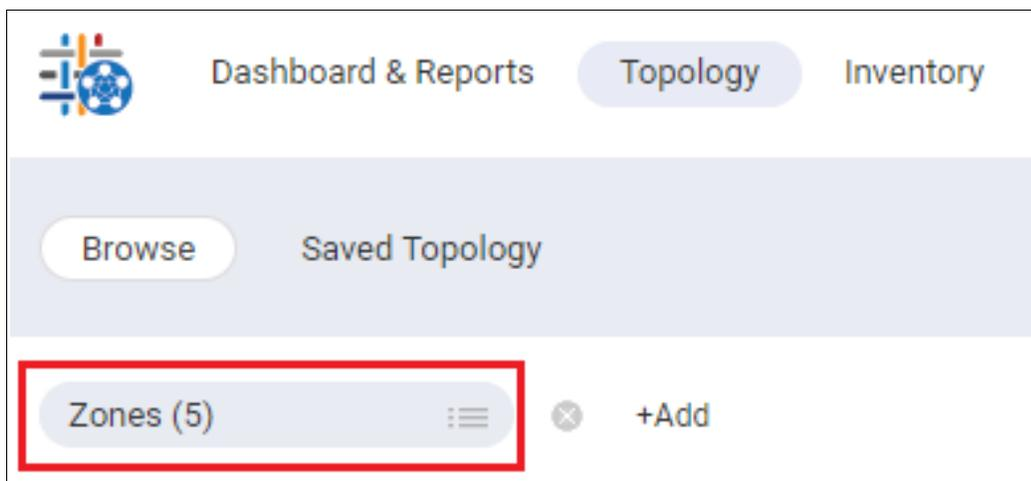

Figure 5-105 Multiple zones
4. You can click the **Menu** icon to add zones or remove zones from the context. If more than one zone is selected, the context field shows the number of zones selected (Figure 5-105).